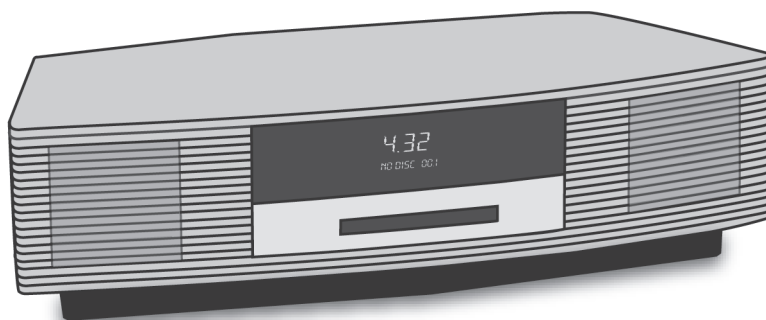

Figure 1
Some of the questions in this paper relate to a compact disc (CD) player as shown in Figure 1.